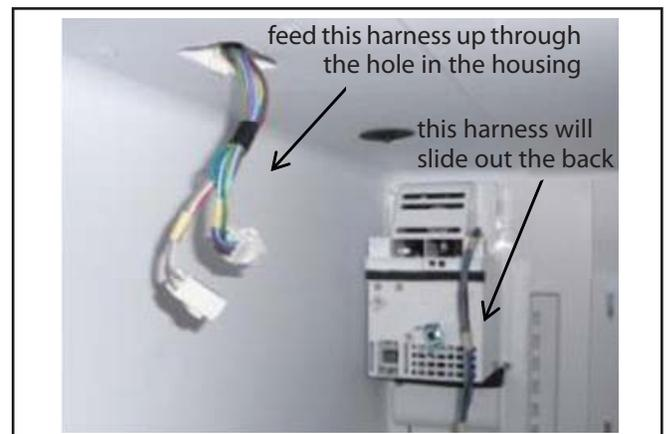

Figure 6-57
2. With all the screws removed, pull the front end of the housing body downward about an inch and feed the harnesses up through the square hole. Figure 6-57.
3. Pull the cover forward and out of the unit. The wiring harness coming from the rear of the housing will slide out the back of the housing. Figure 6-57.